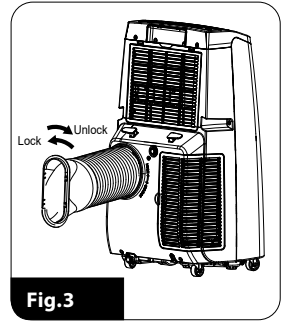

Fig. 3
4. Insert the mounting ring (17) together with the duct (15) into the air outlet (11) and gently turn the ring counter-clockwise (Fig. 3).